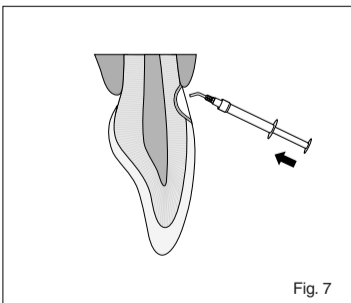

Fig. 7
- Place the dispensing tip as close as possible to the cavity, and slowly push the plunger to inject material into it (Fig. 7). Alternatively, dispense material onto a mixing pad and transfer to the cavity using a suitable instrument.
- Die Dispensenspitze möglichst nahe an die Kavität halten und die benötigte Menge an Material ausdrücken (Abb. 7).